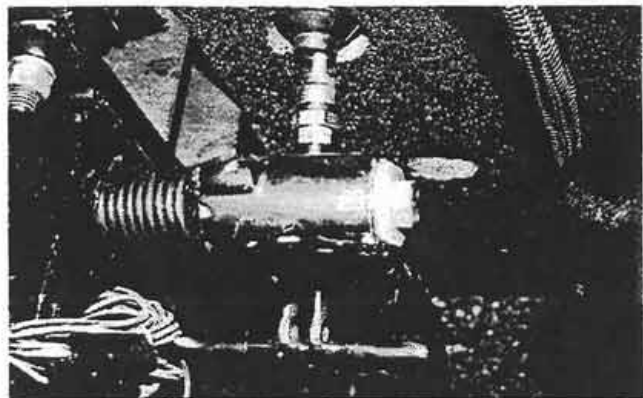

Figure 10:
4. Guide the pedal push rod through the dust boot and fasten the cylinder to the cab (Fig. 10). Reconnect the push rod and clevis at the brake pedal, if it was previously removed.